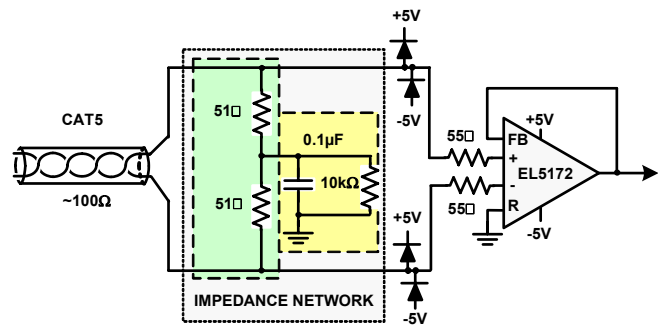

FIGURE 3.  $\pm 3.5V$  CMV CIRCUIT
- 1.  $\pm 3.5V$  CMV Circuit** - The first circuit, Figure 3, is a Cat 5 to Coax converter with  $\pm 3.5V$  CMV, which relies on the amp's CMV range while converting differential input to single-ended output. We used the EL5172 for NTSC and PAL in a simple unity gain configuration. We can use the same circuit with a higher bandwidth op amp, the EL5375 or EL5378, for RGB video (only the EL5172 circuit is shown for reference). The 55 $\Omega$  resistor right at the input to the amplifier is to reduce possible feedback generated oscillation and should be placed as close to the inputs as possible. Note the ESD clamp diodes location for ESD protection.